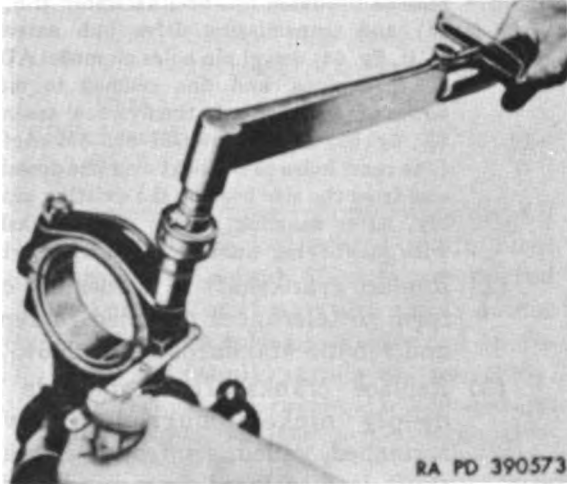

Figure 69. Pinch checking connecting rod bearing.
- (2) *Connecting rod bearings (E).* Replace all defective bearings as described in paragraph 84b (1) through (4). New connecting rod bearings must be pinch checked in the rod and cap as described in (a) through (f) below.
- (a) Place connecting rod (F-3-a) securely in vise which has copper or leather jaws. Install new connecting rod bearing (E) in rod and in cap (F-3-b).
- (c) Using a torque wrench, tighten only one nut to 550 pound-inches of torque. On opposite side of rod, insert a 0.0015-inch feeler gage in joint between rod and cap as shown in figure 69.
- (3) *Connecting rod with cap (F-3).*